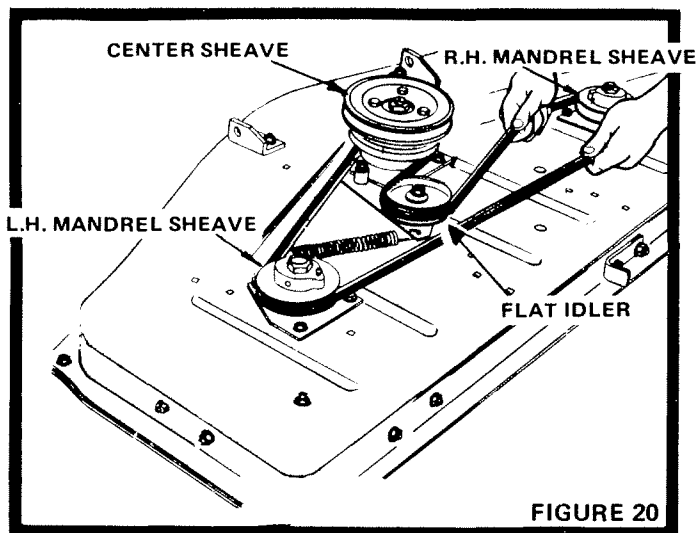

FIGURE 20
6. Remove one bolt in Belt Guide (No. 26, page 10) at L.H. Mandrel Sheave (Fig. 20). Loosen the other bolt. Swing Belt Guide to one side.
9. Install new belt in groove of L.H. Mandrel Sheave lower groove of Center Mandrel Sheave and around Flat Idler. From a position at discharge end of mower, grasp rear-most strand of belt in left hand and pull belt coming from idler with right hand until it will go into groove of R.H. Mandrel Sheave (Fig. 20).